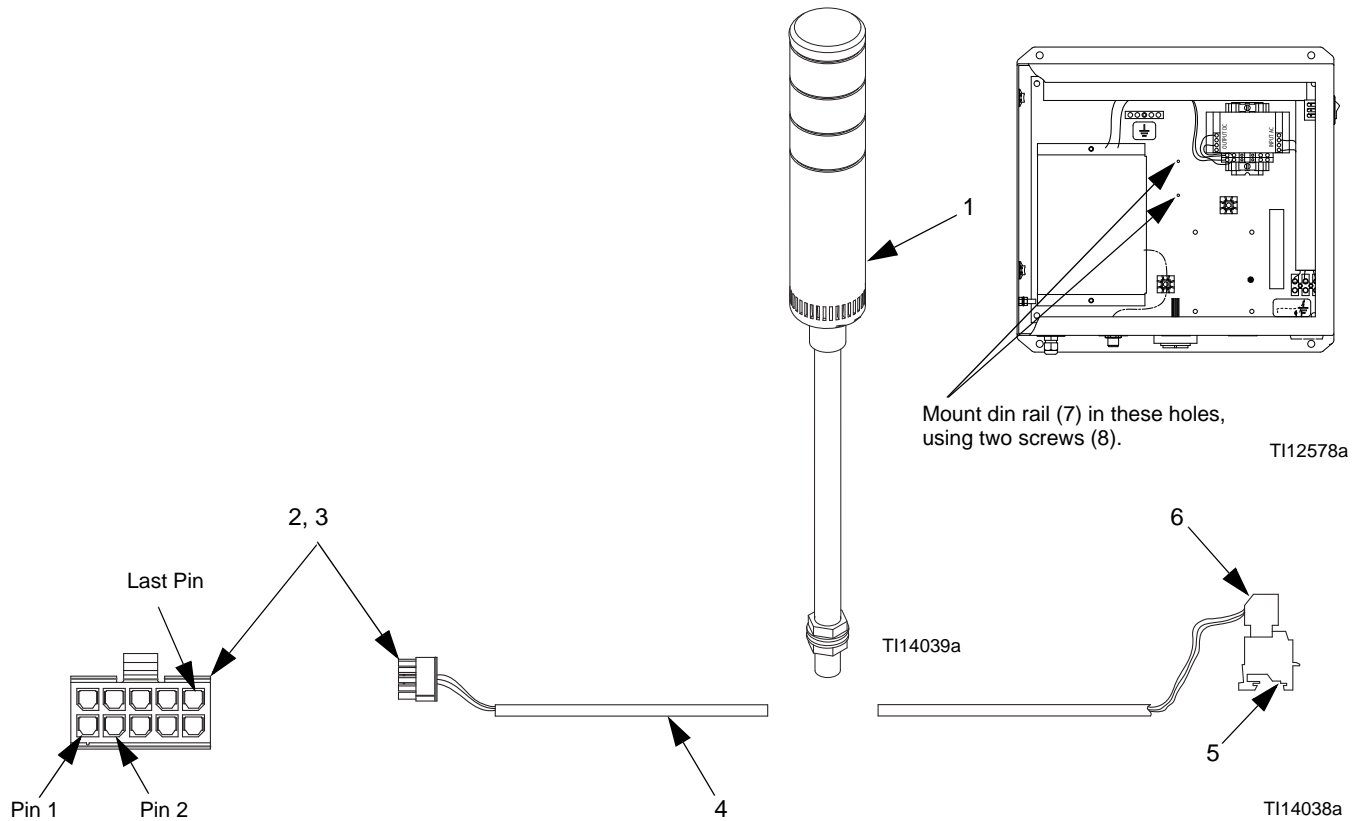

FIG. 4: 15W034 Beacon Kit Parts
3. Install the din rail (7) with two screws (8). Install the header (5) on the din rail and connect the cable (4) to J5 on the EasyKey display board. See FIG. 4.